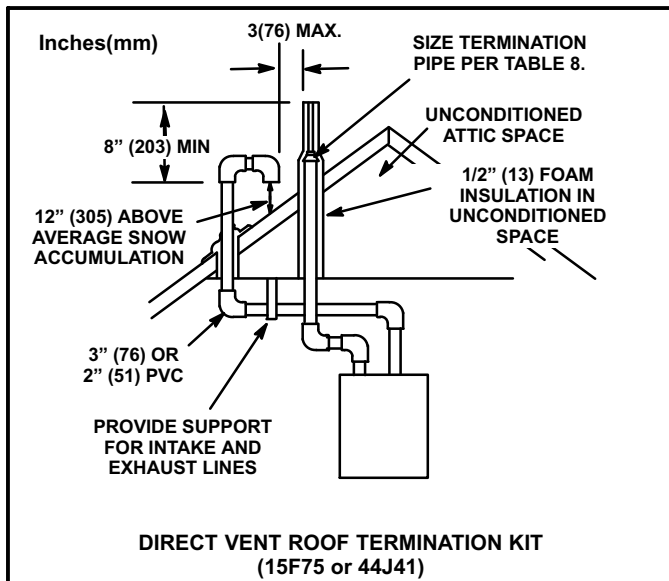

FIGURE 31
Intake and exhaust pipes may be routed either horizontally through an outside wall or vertically through the roof. In attic or closet installations, vertical termination through the roof is preferred. Figures 31 through 39 show typical terminations.
- 4 - On roof terminations, the intake piping should terminate straight down using two 90° elbows (See figure 31).